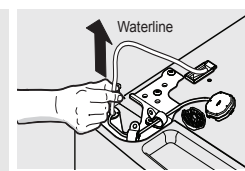

Figure 3
3. Gently pull up on the water line to remove it from the door. See Figure 3.